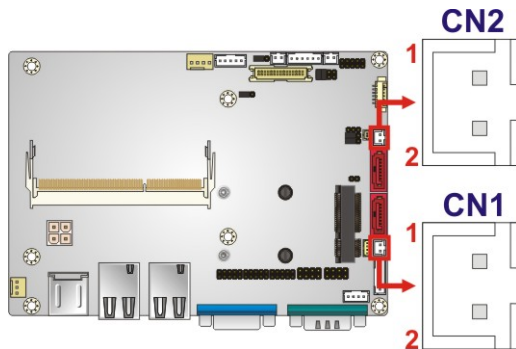

Figure 3-2: 5 V SATA Power Connector Locations
- CN Location:** See **Figure 3-2**